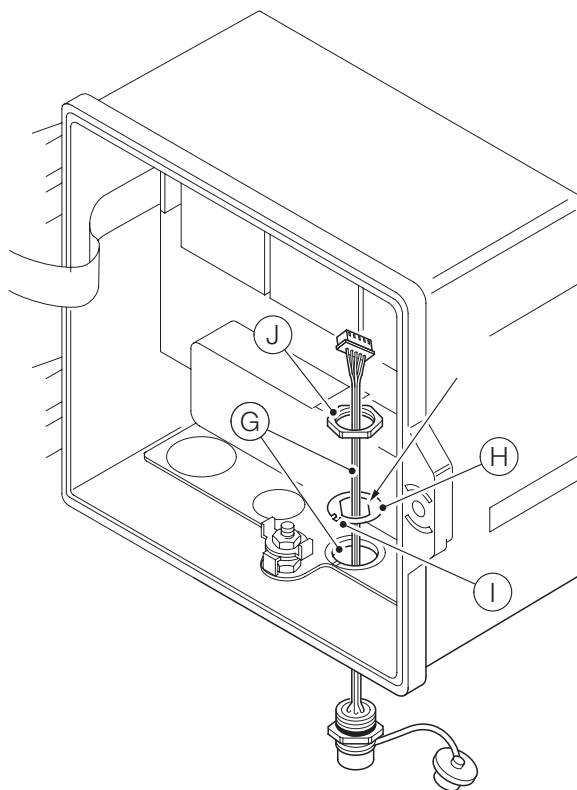

Figure 13 Preparing EZLink connector cable fixings
Referring to Figure 13:
- 7** Fit alignment tab (I) into gland plate slot (K) (on plastic case variant) or in the casting slot (on metal case variant).
- 8** Insert EZLink connector body (L) fully into cable entry and align the connector body using the flats on the alignment washer (see Figure 13).
- 9** Screw back nut (J) onto connector body and tighten using a spanner.